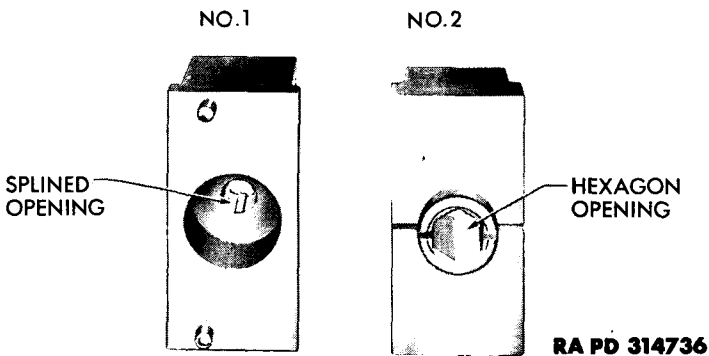
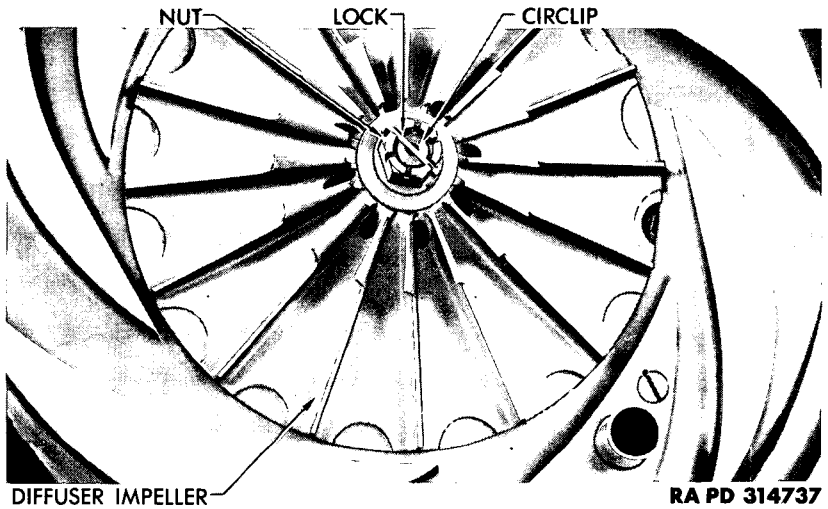

Figure 146 – Mounting Fixtures for Overhaul of Diffuser Section
Figure 147 – Impeller Shaft Nut and Lock
c. **Remove Impeller.** Place mounting fixture block No. 2 (fig. 146) in jaws of vise. Mount diffuser section in fixture with impeller up, and with nut on other end of impeller shaft seated properly in fixture hexagonal recess. Remove circlip and lock from nut on impeller shaft (fig. 147). Remove impeller retaining nut (fig. 148). Install puller on impeller. Pull impeller from shaft (fig. 149).
f. **Disassemble Impeller Bearing Cage.** Place fixture block No. 1 in vise with dowels pointing up (fig. 146). Mount cage assembly in